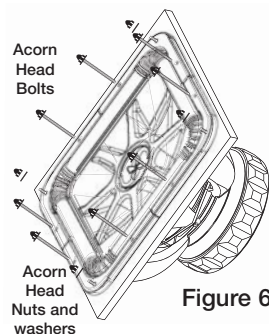

Figure 6
Then remove the four (4) Acorn Head Nuts and washers, and the eight (8) Acorn Head Bolts securing the SPAIR (Simple Pull Apart Insertable Replacement cone assembly) to the BAM (Basket And Motor assembly) and to the wood "template". Place the SPAIR in a safe and clean location. See Figure 6.